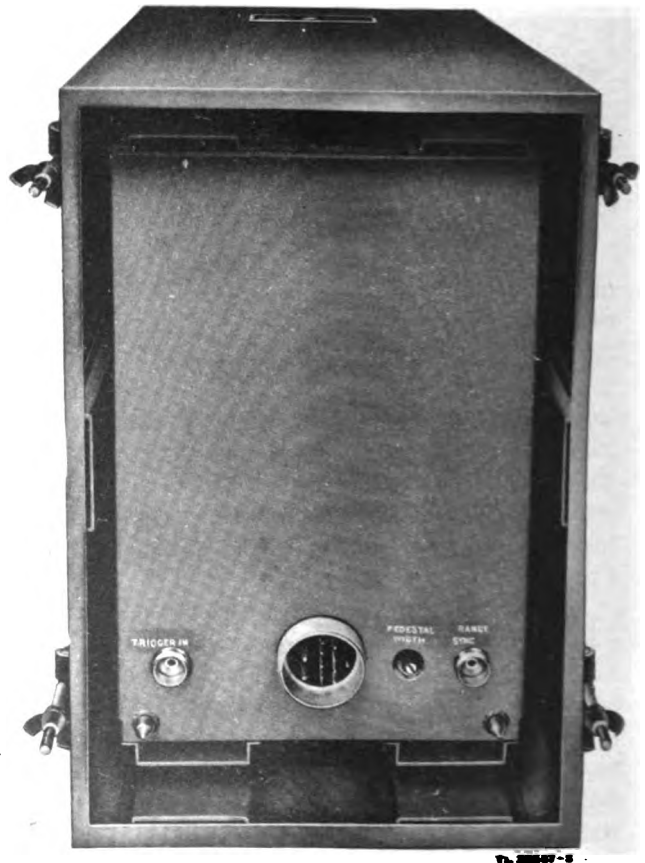

Figure 104. Rear view of control unit.
**f. Pedestal Width Adjustment.** The pedestal multivibrator must next be adjusted to furnish a pulse (pedestal) approximately 500 microseconds in duration (width). This pulse is used by the sweep brightening circuits to brighten the sweep. Two methods of adjusting the pedestal duration are given below. Both methods require the services of an assistant. One man observes the control unit screen and instructs the second man, who turns the PEDESTAL WIDTH control on the back of the control unit (fig. 104).